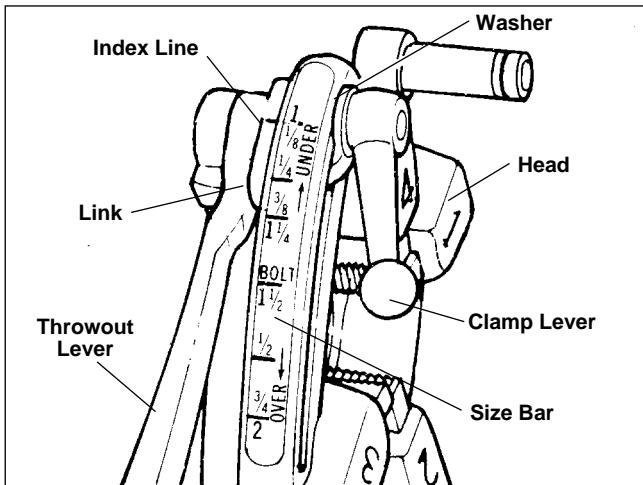

Figure 13 – Universal Quick-Opening Die Head
**Quick-Opening Die Head** (*Figure 13*) – When thread is completed, raise throwout lever to **open head position**, retracting dies.
The universal die head (*Figure 13*) for right-hand threads requires four sets of dies to thread pipe ranging from  $\frac{1}{8}$ " through 2". One set of dies is required for each of the following pipe size ranges: ( $\frac{1}{8}$ "), ( $\frac{1}{4}$ " and  $\frac{3}{8}$ "), ( $\frac{1}{2}$ " and  $\frac{3}{4}$ "), (1" through 2"). The  $\frac{1}{8}$ " pipe dies are not available for left-hand die head. Bolt threading requires a separate set of dies for each bolt size. No bolt dies are available for left-hand universal die heads.